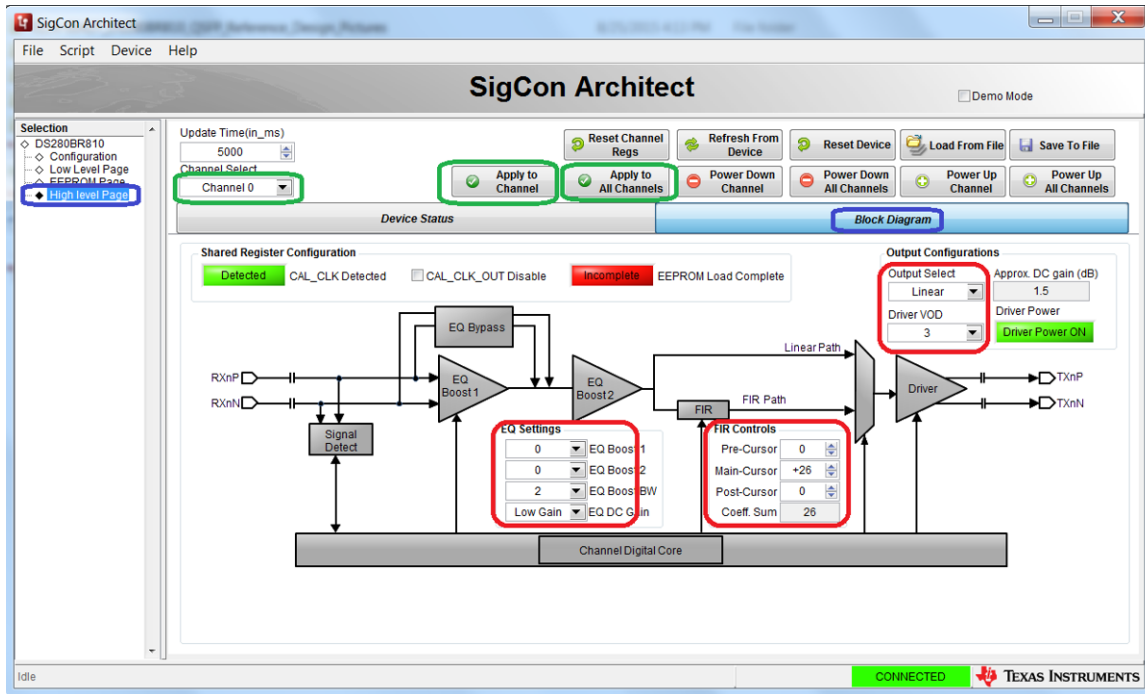

Figure 9. SigCon GUI—High Level Page Configuration
7. Upon successfully establishing communication between the SigCon Architect tool and the device, select the "High Level Page" entry under the *Selection* panel and then select the *Block Diagram* bar. Figure 9 shows this process in the blue boxes. The user can then set the values for the equalizer and FIR parameters, as the red boxes show. By default, the channel is set to "Channel 0", but the user can change the settings to the current selected channel only or apply to all eight channels, as the green boxes show. Contact a Texas Instruments (TI) sales representative or send a request to the DS280BR810 product page to obtain a copy of the *DS280BR810 Programmer's Guide* (SNLU188), which lists the applicable settings to use.